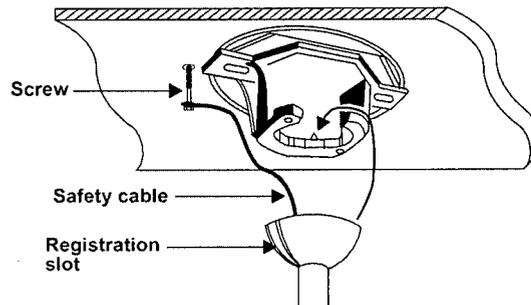

Figure 9
12. An additional safety support is provided to prevent the fan from falling. Secure the safety cable to the ceiling joist with screw and washer. (Fig. 9)